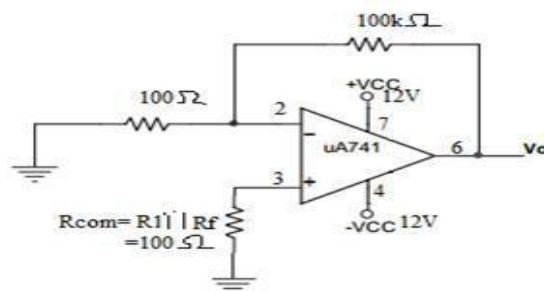

Fig.1.1: Circuit Diagram to measure input and output offset voltage
1. Connect the circuit as shown in Fig.1.1